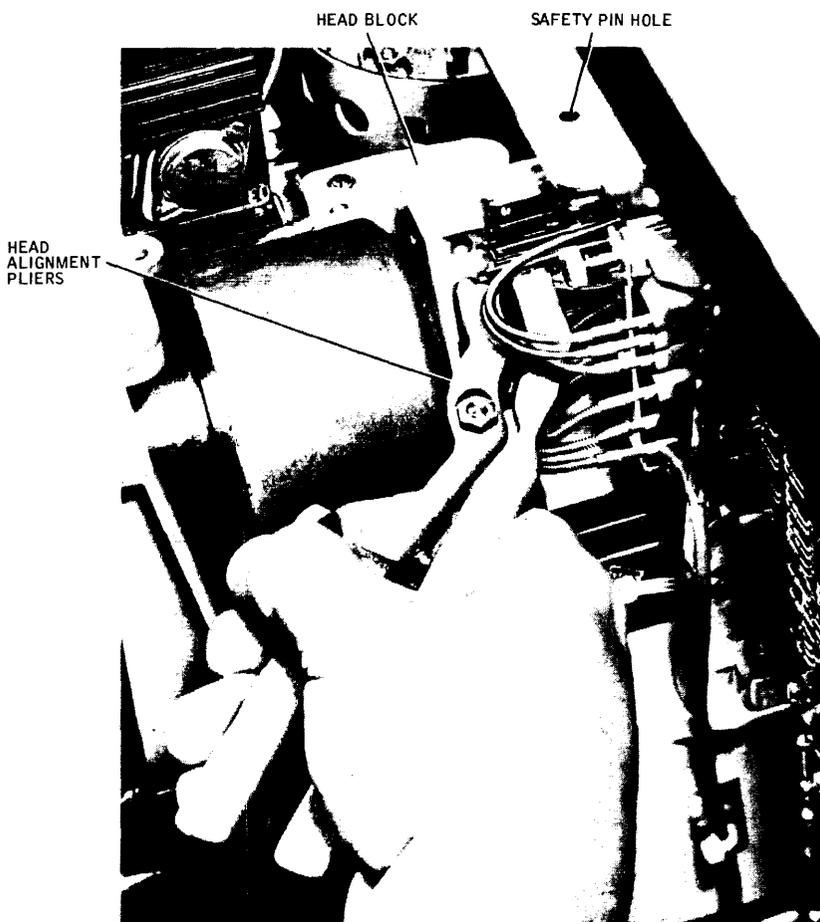

Figure 3-11. Head Alignment Pliers in Use
17. Run the thumbscrew on the head alignment pliers out several turns, and carefully insert the round and rectangular pins of the pliers into the head carriage block hole and slot of the head to be adjusted. See Figure 3-11. Then run the thumbscrew in until it just contacts the other plier handle to act as a calibration stop.